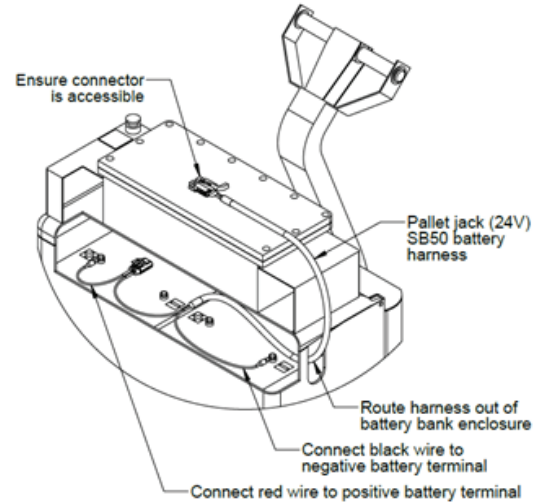

FIGURE 10
- a. Connect the SB50 battery harness with ring terminals directly to the pallet jack batteries. Attach the red wire to the positive terminal on one side of the battery bank and the black wire to the negative terminal on the opposite side of the battery bank to ensure even charging. (Figure 10)
- b. Route the pallet jack battery harness from the battery bank to a location where the SB50 connector is accessible for frequent connecting and disconnecting. (Figure 10).
21. Complete the connection from the unit to the solar panels by turning on the solar disconnect switch. To ensure the solar panels are charging the batteries, a clamp-on ammeter is required. Ensure the solar panels are in the sunlight (opaque material removed). Clip the ammeter around the FIGURE 10 positive wire of the liftgate battery harness between the unit and the liftgate batteries. Activate the liftgate for one cycle. Note, the solar charge controller in the unit can take up to one minute to start charging, so there may be a delay before current flow is registered on the ammeter.